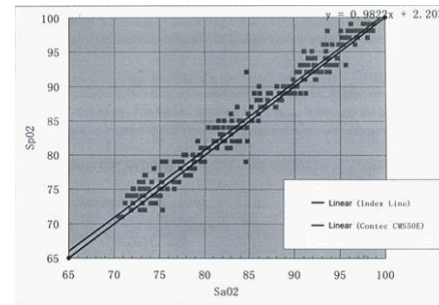
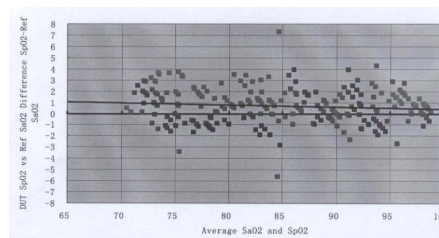

Figure 2 SpO2 regression plot
Figure 3 Bland-Altman plot
5. **Measurement Accuracy:** ±2% in stage of 70% ~ 100% SpO2, and meaningless when stage being smaller than 70%. ±2 bpm during the pulse rate range of 30 bpm ~ 99 bpm and ±2% during the pulse rate range of 100 bpm ~ 250 bpm. Clinical Trial: SpO2 regression plot & Bland-Altman plot. Refer to Figure 2 & Figure 3.